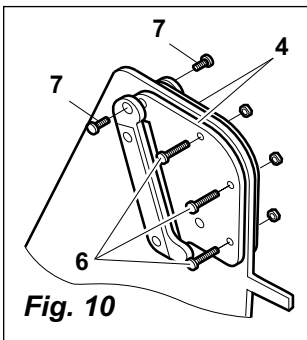

Fig. 10
- Each of the two bearing plates **4** is screwed to the centre support with 3 hexagon-head bolts **6** M6 x 25 mm and hexagonal nuts M6, as well as with 2 hexagon-head bolts **7** M8 x 10 mm, see **Fig. 10**.